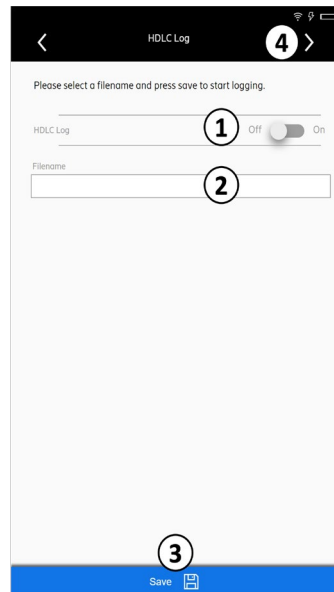

Fig. 42: Service: HDLC logging
9. Tap ④ in Fig. 42 to show the log files.